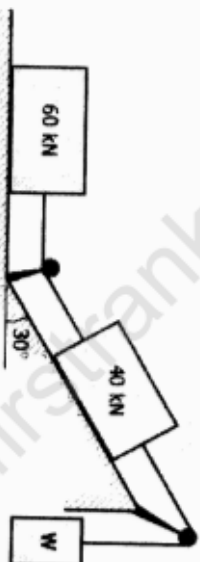

Figure 5
9. Determine the weight 'W' that will give the system of bodies a velocity of 3 m/s after moving a distance of 4.5 m from position of rest. Coefficient of friction at all contact points is 0.2. Assume pulley as frictionless (Figure 5).